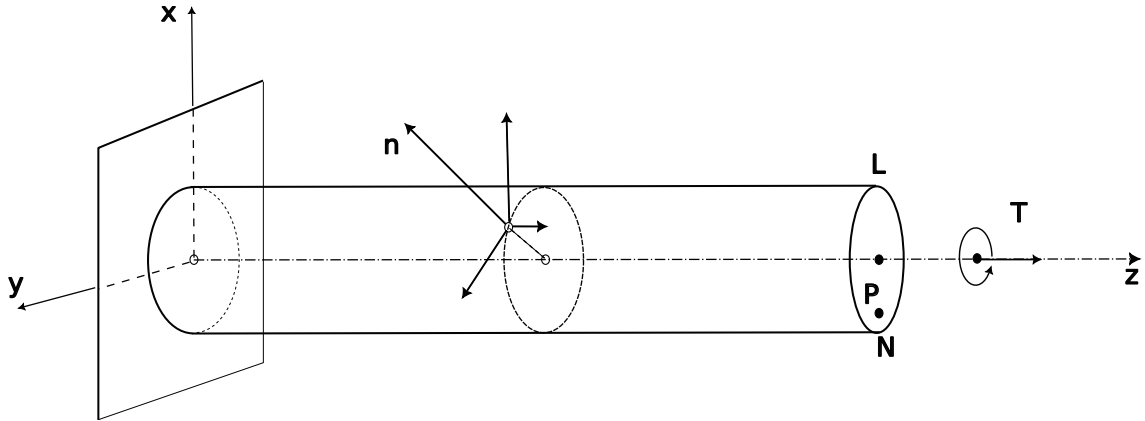

Figure 3
3. A cylindrical rod (Fig.3) is subjected to a torque T . At any point P of the cross-section LN , the following stresses occur